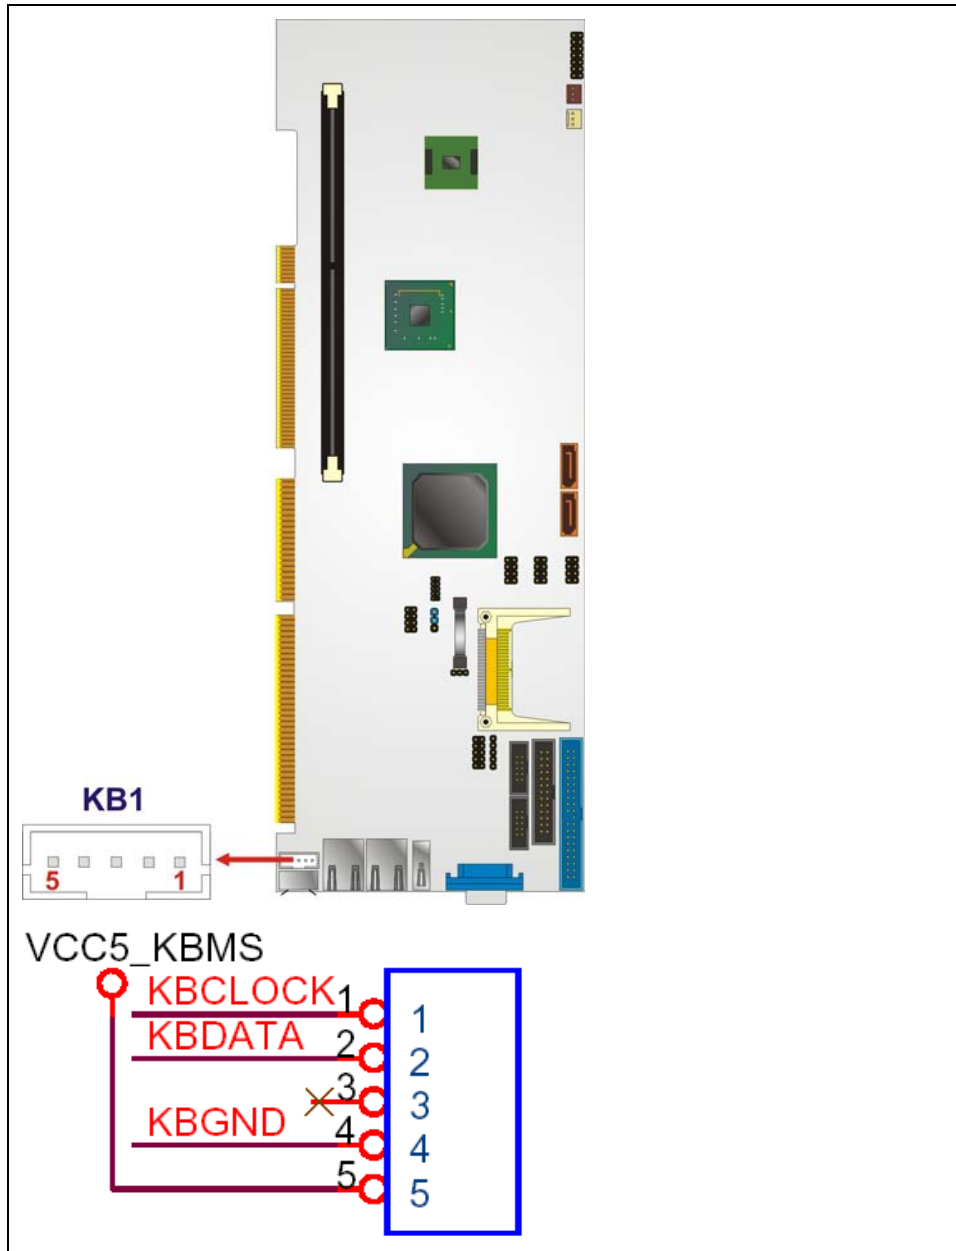

Figure 4-10: Keyboard Connector Location
- CN Location:** See Figure 4-10